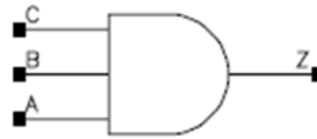

Figure 6: The AO312 and AND3 cells from the cell library for the 65 nm cell library.
- b. We found two cells in the cell library, AO312 and AND3, shown in Figure 6, and that raised our curiosity in designing a valency-3 Sklansky adder like the one shown in Figure 5 in the Excel template format. The design seems to work properly. Now, the question for you to answer is how these two cells from the cell library are used in the valency-3 Sklansky adder. In particular you should write the logical expressions for cells E10, K10, and Q10 that are marked in grey in the template.